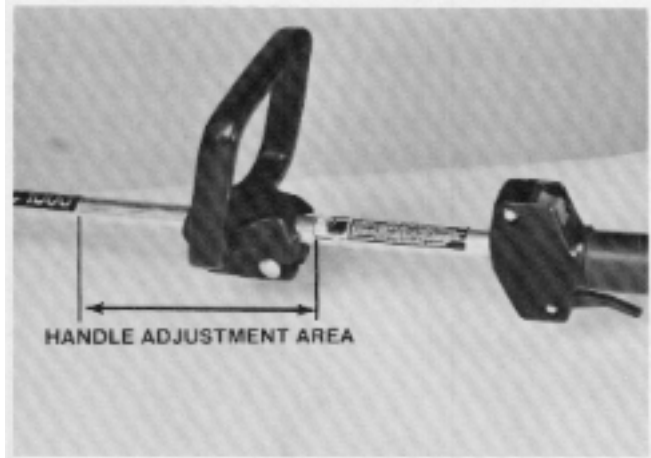

Figure 113
2. Adjust to the desired handle height but do not cover the eye protection safety decal. See Figure 113.